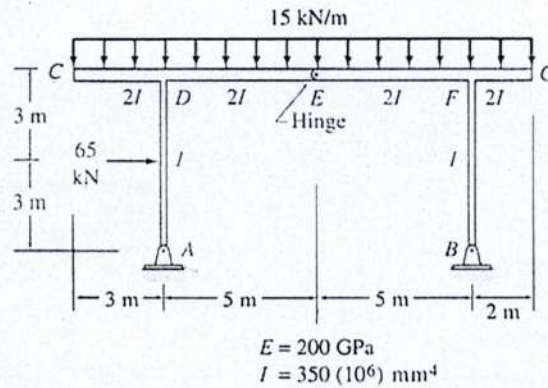

Figure: 11
7. (a) Using the method of virtual work, determine the vertical deflection at joint E of the frame shown in Figure 11. 10